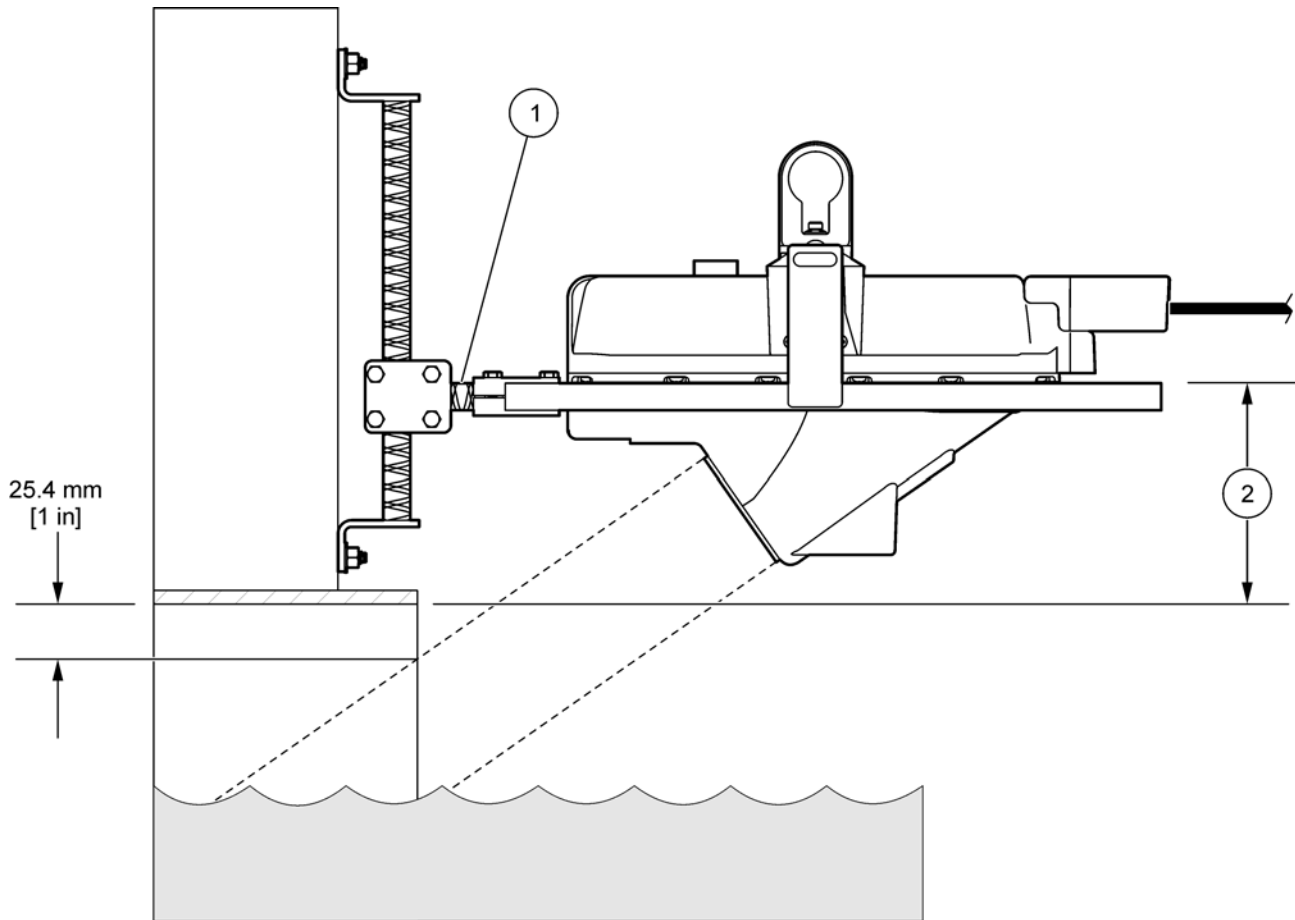

Figure 11 Vertical alignment of Flo-Dar sensor
- Flo-Dar without SVS—make sure that when the sensor is in the frame, the radar beam will not be blocked by the wall or channel (Figure 11).
The sensor must be aligned vertically to make sure that the sensor is above the flow and that the radar beam will not be blocked by the wall or pipe (Figure 11).
1. Make an estimate of where a line that extends from the top of the radar lens perpendicular to where the lens will point (Figure 11).
2. Loosen the clamp on the wall mount bracket and position the frame so that the radar beam will point below the crown of the pipe by at least 1 inch (Figure 11). It may be necessary to install the 12-inch spacer to extend the frame farther from the wall.